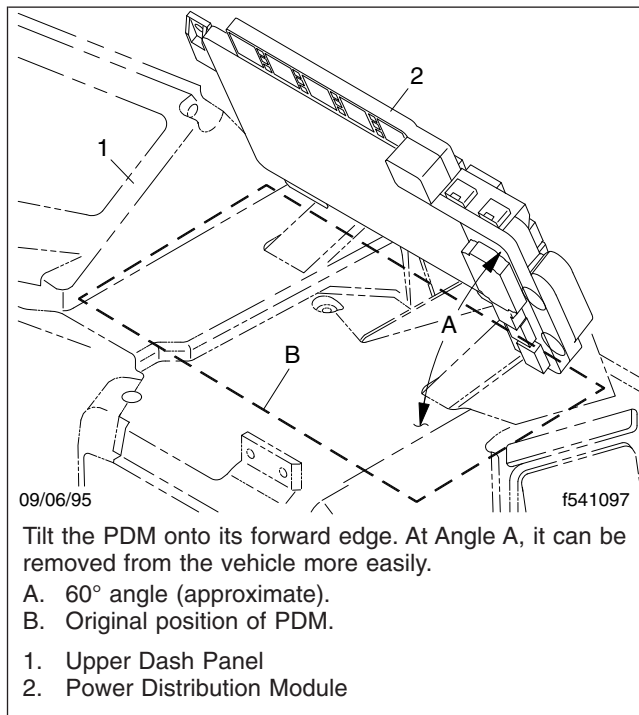

Fig. 3, Tilting the Power Distribution Module
- 6.5 Rotate the PDM to an angle of about 60° from vertical to expose the bottom of the PDM. If the PDM will not rotate that far because of binding from the electrical harness, disconnect the three main junction connectors and cut tie straps as needed to gain enough flexibility. See Fig. 3.